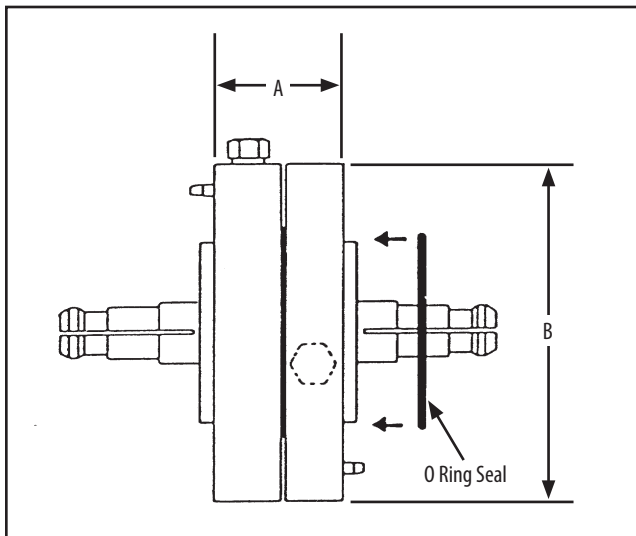

Figure 1.
1. Refer to Figure 1. The gas barrier is shipped completely assembled and includes the O-ring seal and connecting hardware. The port enters the Type RLA150-16 gas barrier on the pressurized side of the insulator. This side of the barrier must be facing the pressure side of the system when the barrier is installed. Barriers having two plugs may be turned either way.